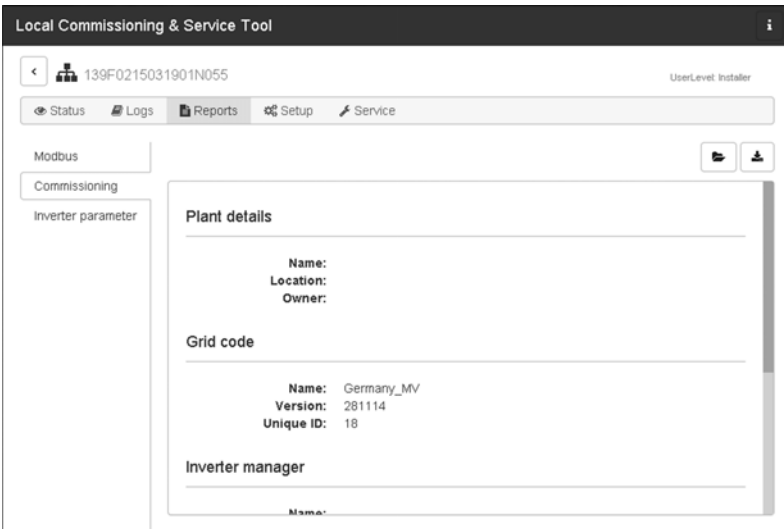

Figure 15: LCS-Tool - commissioning report
13. During commissioning it is possible to download a commissioning report in the **Reports** menu. The report contains information about inverter settings, including actual disconnection values for each inverter. By clicking the folder icon in the menu **Reports**, it is possible to open a folder for commissioning reports (incl. grid code information) (see figure 15).